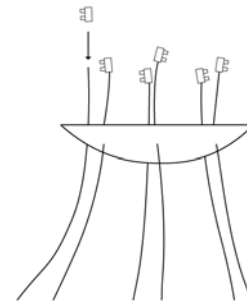

Figure 2
2. Attaching the cables to the ceiling canopy (Figure 2,3)
Thread the plain end of each cable through the holes in the ceiling canopy (**figure 2**).